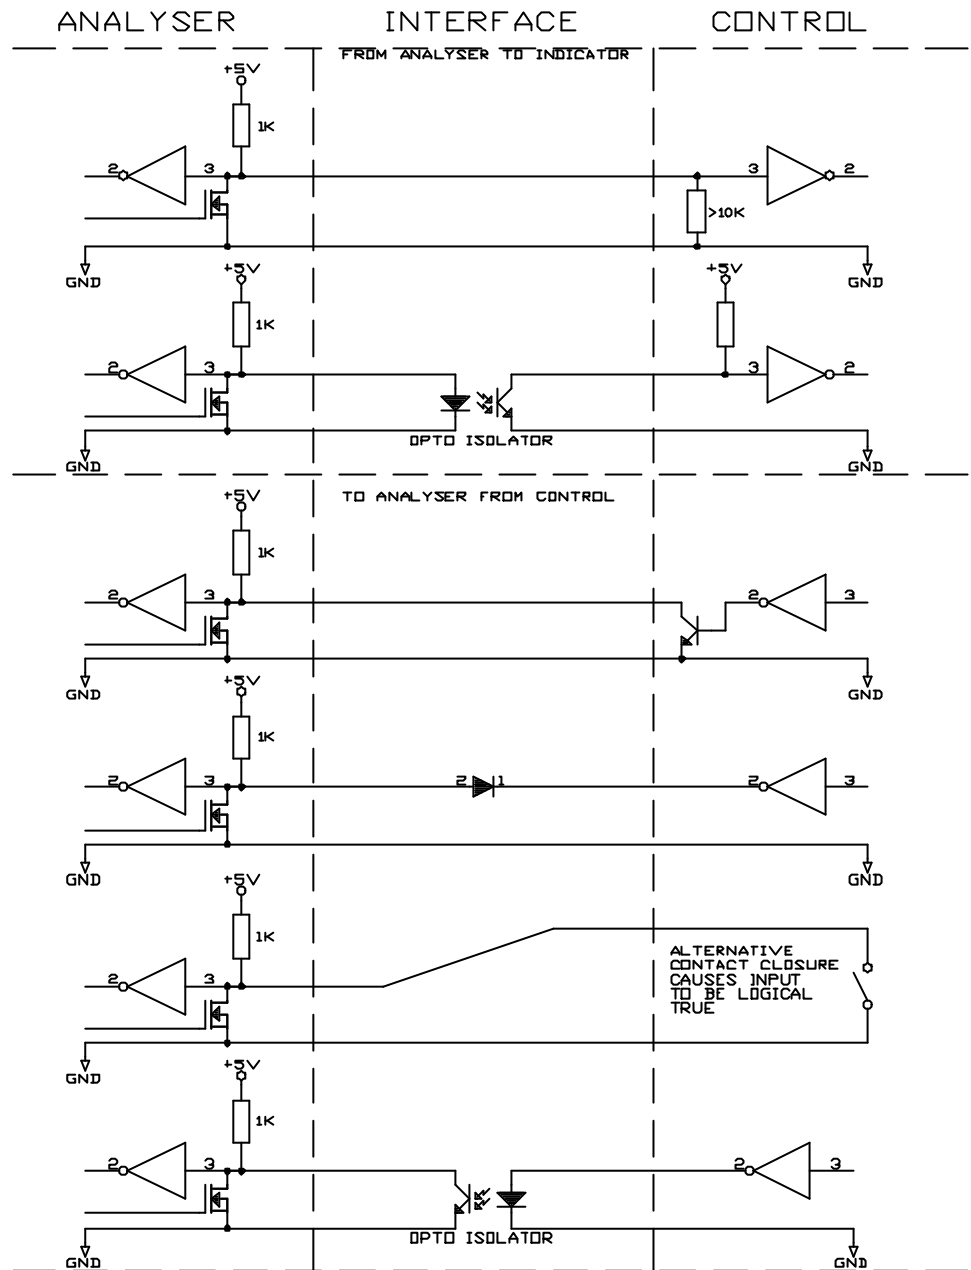

Figure 5 Typical Remote Logic Connections
3.7.3 Typical connections for switch, logic, and isolated logic are given in Figure 5 on page 17. The grounded switch method of control is useful where the analyser must be placed in a different area from